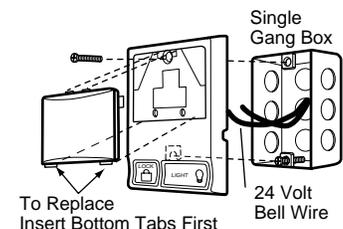

Figure 3 MULTI-FUNCTION DOOR CONTROL (BACK)
- Strip 7/16" of insulation from one end of bell wire and connect to the two screw terminals on back of door control by color: white wire to WHT and white/red wire to the RED (Figure 3).